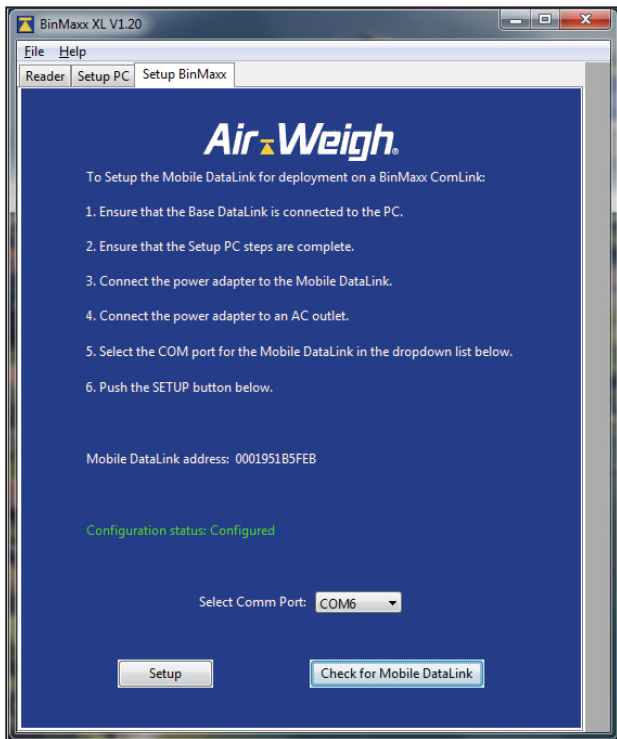

Fig. 12 BinMaxx XL Setup BinMaxx Page
6. From the BinMaxx XL application, click on the Setup BinMaxx tab (Fig. 12).
8. When the program finds the Mobile Datalink, the Datalink's Bluetooth address, which is a 12-digit series of letters and numbers, will be visible on the screen (Fig. 12). The configuration status should read Setup Ready. Record the BlueTooth address.